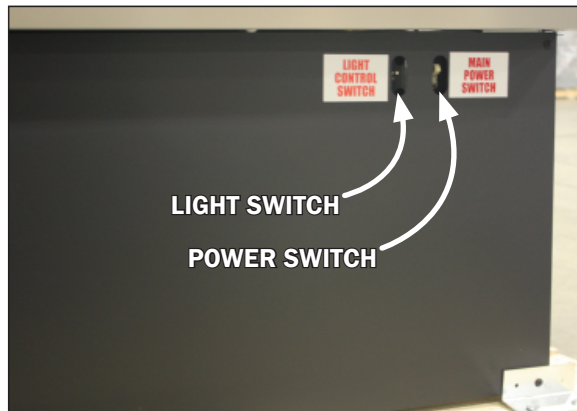

Fig. 11 Lower panel switch locations
1. After the main power cord located at the rear base panel of the case is plugged in and the power switch (Fig. 11) flipped to ON the case should begin normal operations.